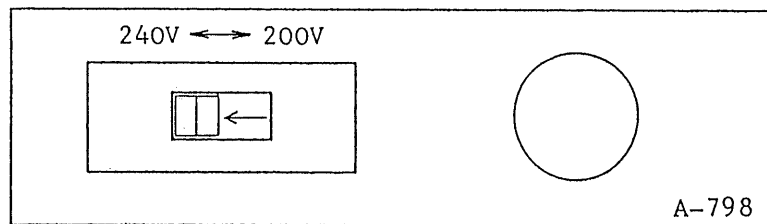

Figure 2-13 For 240V AC line
- (1) Set the switches of the A-798 board as shown in Figure 2-13.
- (2) Seal the switches of the A-798 board with the "AC 240V" seals.
- (3) Post the "AC 240V" seal on the printed "AC 200V" mark at the rear input terminal block.
- (4) Change the name plate of input voltage.